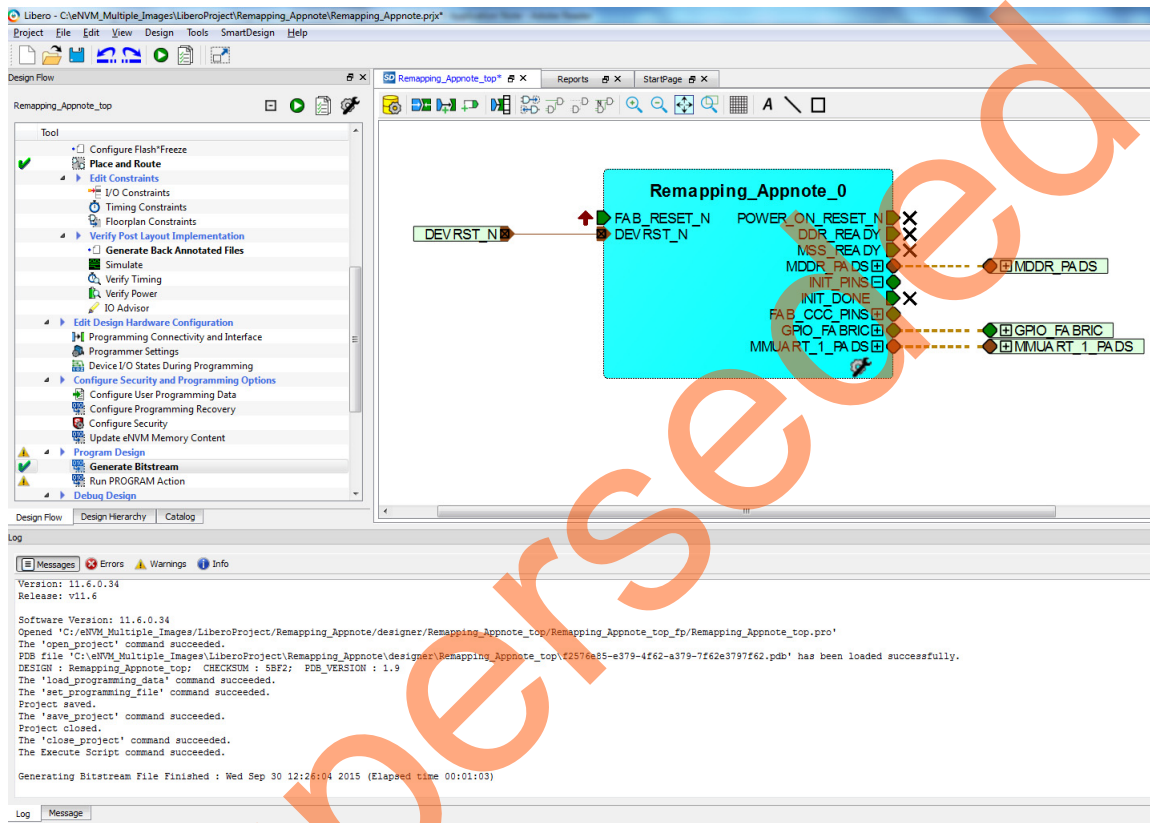
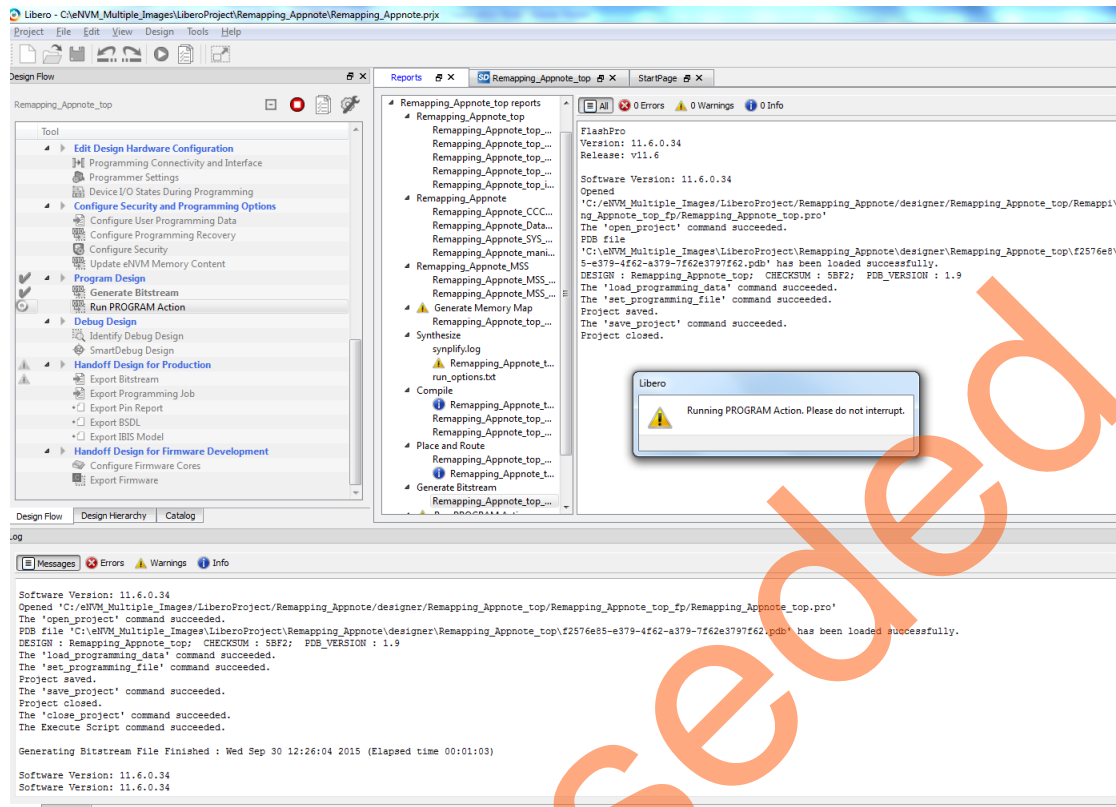

Figure 46 • Regenerating Remapping_Appnote_0 Component
Figure 47 • Programming SmartFusion2 Security Evaluation Kit
11. Click **Run PROGRAM Action** to program the SmartFusion2 device to initialize the eNVM with the memory file as shown in Figure 46 and Figure 47 on page 39.